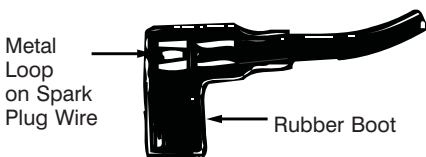

Figure 8
- Attach spark plug wire to spark plug. If unit is equipped with a rubber boot over the end of the spark plug wire, make certain the metal loop on the end of the spark plug wire (inside the rubber boot) is fastened securely over the metal tip on the spark plug. See Figure 8.